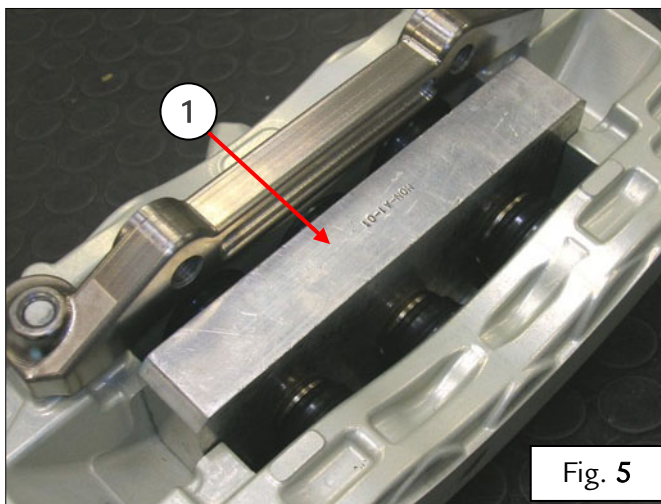

Fig. 5
- Place a metal block (see the drawing attached on **page 7- 8** for the correct dimensions of the block according to caliper and vehicle model) or the brake disc between the caliper pistons – Fig. 5.